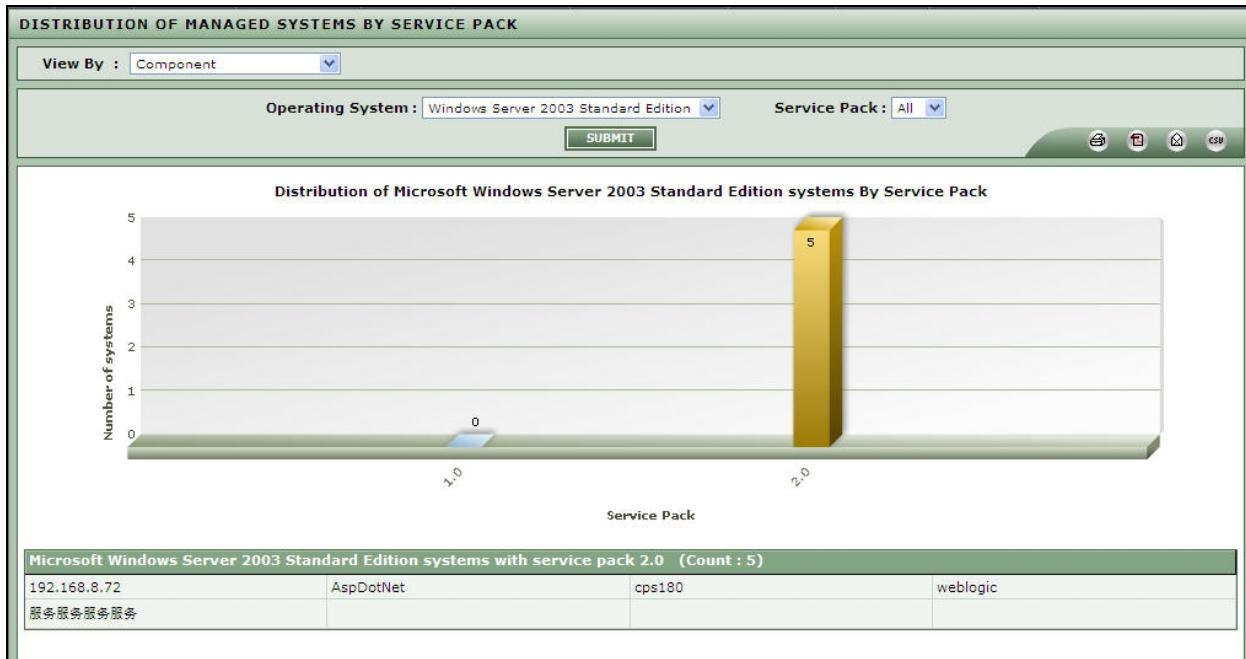

Figure 2.18: Distribution of systems across the service packs
1. Select an operating system from the **Operating System** list as depicted in Figure 2.18.
2. Then, select the required service pack from the **Service Pack** list. If multiple service packs have been discovered from the environment, then, the **All** option will be selected from the **Service Pack** list, by default as depicted in Figure 2.18 . If only a single service pack exists, then the same will be displayed by default in the **Service Pack** list.